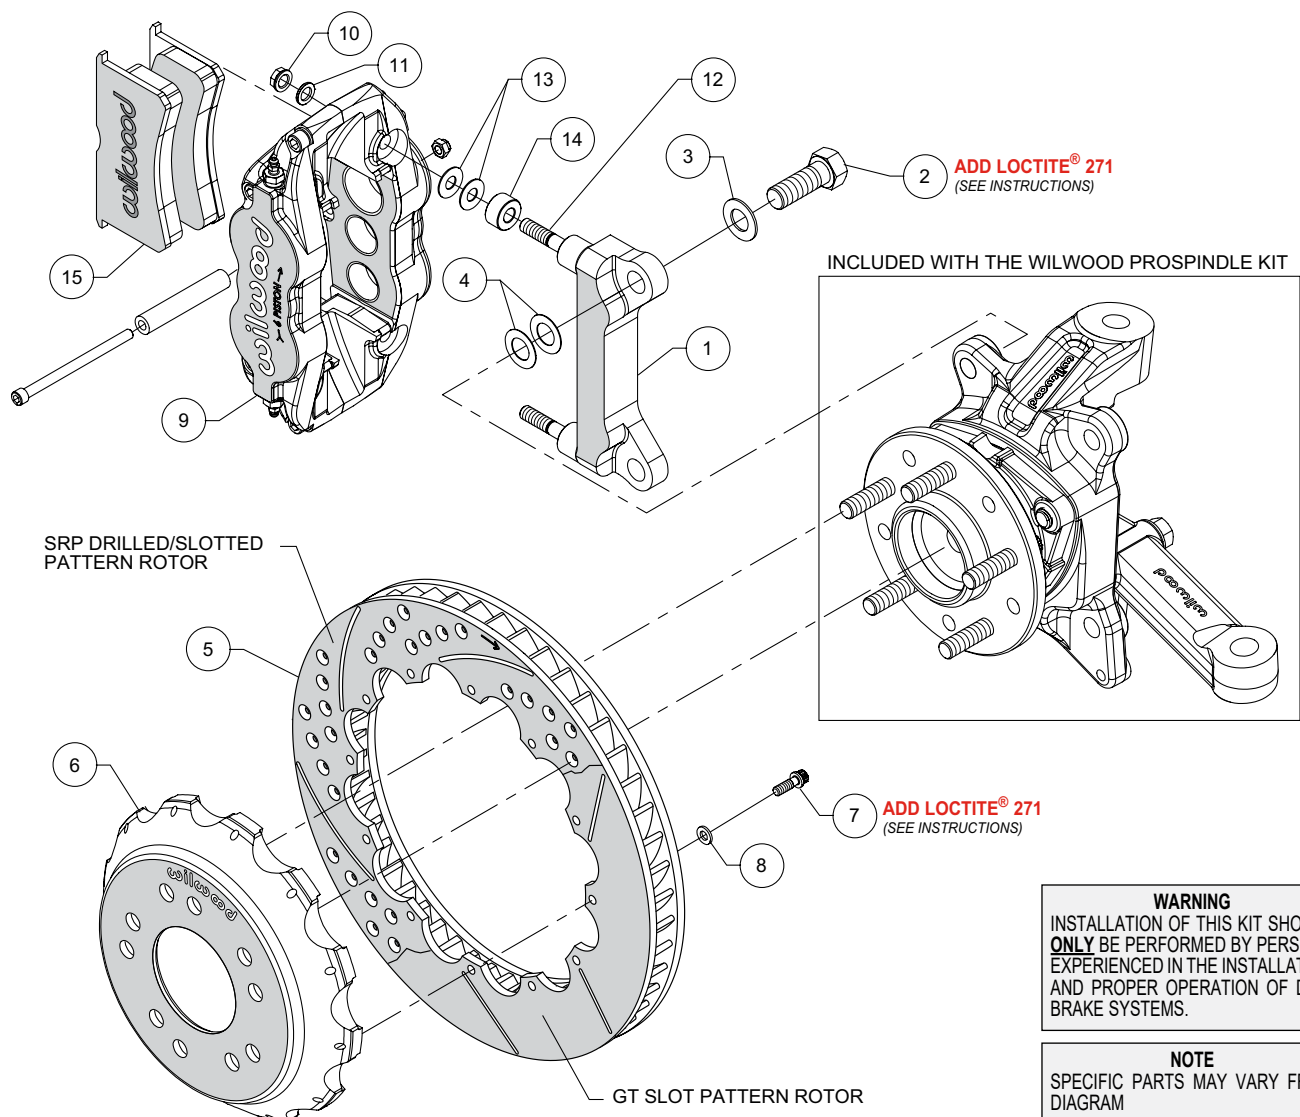
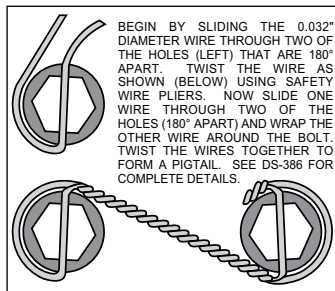

Figure 1. Typical Installation Configuration
Figure 3. Safety Wire Diagram
Assembly Instructions (numbers in parenthesis refer to the parts list and Figure 1 on the preceding pages):
- The caliper mount bracket (1) should initially be installed with clean, dry threads on the mounting bolts. Orient the bracket as shown in Figure 1 and Photo 1 and install using mount bolts (2) and washers (3). Initially place two .024" thick shims (4) on each bolt between the bracket and spindle, Figure 1. Temporarily tighten the mounting bolts. **NOTE: The bracket must fit squarely against the mounting points on the spindle.** Inspect for interference from casting irregularities, machining ridges, burrs, etc. Later, after the caliper alignment has been checked, the mount bolts will be secured using red Loctite® 271.
- Orient the rotor (5) and the hat (6) as shown in Figure 1 and Photo 2. Attach rotor to hat using bolts (7) and washers (8). Apply red *Loctite*® 271 to the bolt threads and torque to 155 **in-lb** using a criss-cross pattern. For an added measure of security, the bolts may be safety wired using standard 0.032 inch diameter stainless steel safety wire as shown in Figure 3. Please refer to Wilwood's data sheet DS-386 (available at www.wilwood.com/Pdf/DataSheets/ds386.pdf) for complete safety wire installation instructions.
- **NOTE:** *This kit contains distinct right and left hand calipers that must be mounted in a specific direction, as described below.* Initially place two .035" thick shims (13) and one spacer (14) on each stud (12) between the caliper and the bracket, as shown in Figure 1 and Photo 5. Mount the caliper (9) onto the bracket (1) using lock nuts (10) and washers (11), Figure 1. Ensure that the caliper is mounted so the largest pistons are at the rotor exit end of the caliper, in relation to the direction of rotor rotation. Temporarily tighten the lock nuts and view the rotor through the top opening of the caliper. The rotor should be centered in the caliper, Photo 6. If not, adjust by adding or subtracting shims (4) between the bracket and the spindle. Always use the same amount of shims on each of the two mounting bolts. Once the caliper alignment is correct, remove the bracket mounting bolts one at a time, apply red *Loctite*® 271 to the threads, and torque to 140 ft-lb.